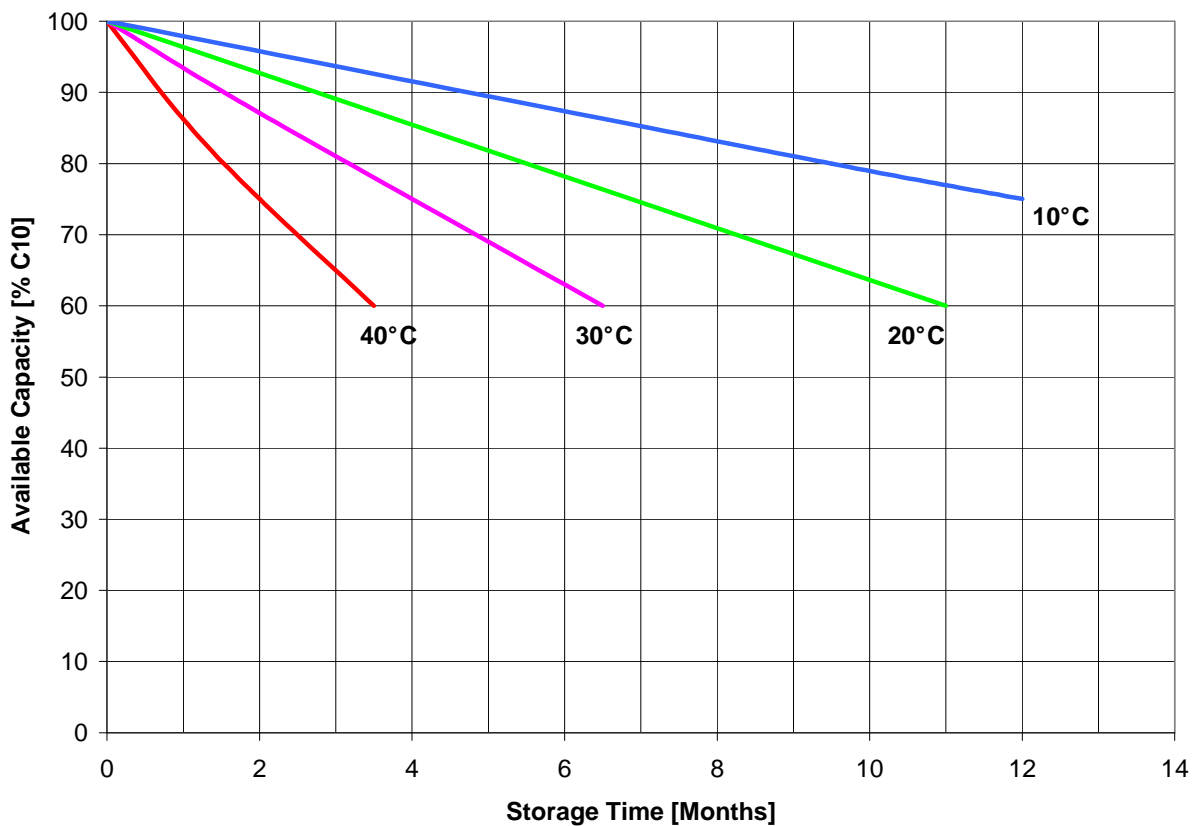

Fig. 1: Powerfit and Sprinter - Available Capacity vs. Storage Time at different Temperatures
- The temperature has an impact on the self-discharge rate of cells and blocks (see fig. 1 and 2).